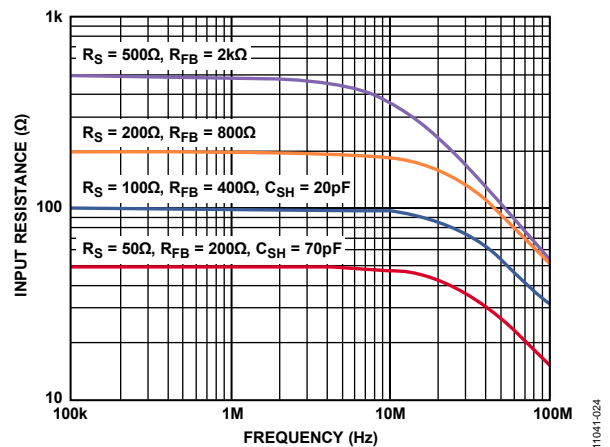

Figure 34. R_{IN} vs. Frequency for Various Values of R_{FB} (Effects of R_{SH} and C_{SH} Are Also Shown)
The bandwidth (BW) of the LNA is greater than 80 MHz. Ultimately, the BW of the LNA limits the accuracy of the synthesized R_{IN}. For R_{IN} = R_s up to about 200 Ω, the best match is between 100 kHz and 10 MHz, where the lower frequency limit is determined by the size of the ac coupling capacitors, and the upper limit is determined by the LNA BW. Furthermore, the input capacitance and R_s limit the BW at higher frequencies. Figure 34 shows R_{IN} vs. frequency for various values of R_{FB}.